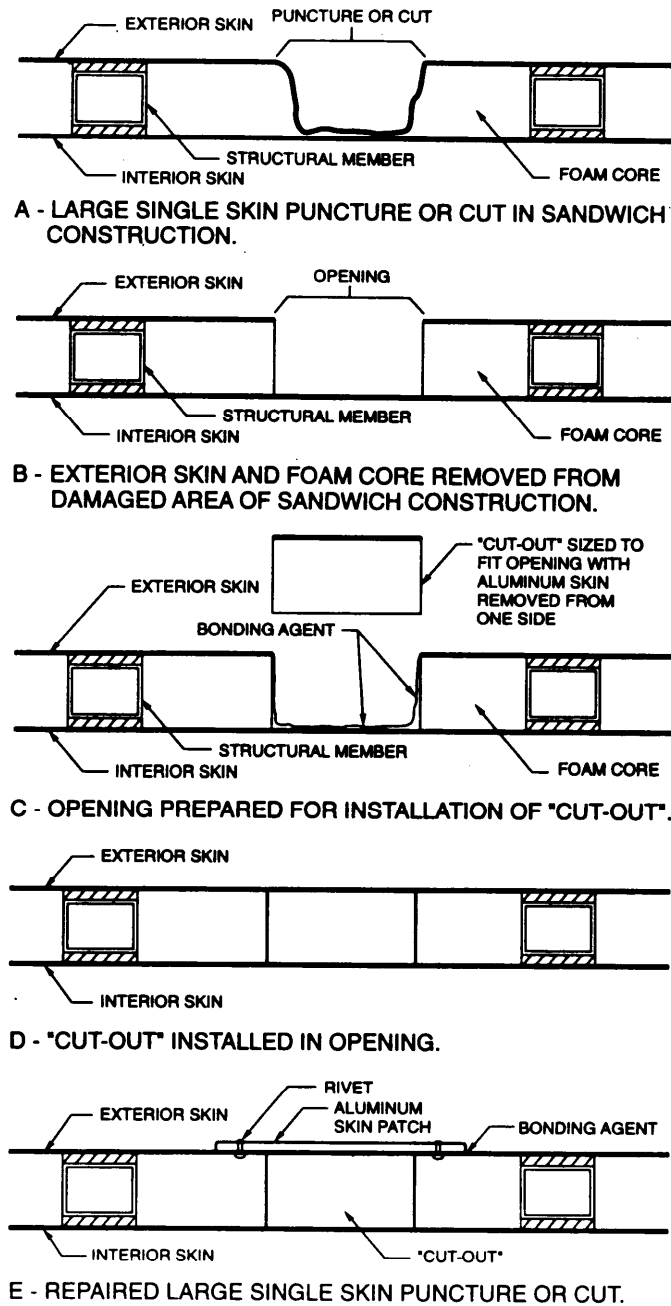

Figure 4-5. Shelter Wall Repair of Large Skin Puncture or Cut.
##### Repair. (Figure 4-5)
- (1) Select an aluminum skin patch that overlaps the puncture or cut by one inch in all directions.
- (2) Use the aluminum skin patch as a template positioned over the puncture or cut, and lightly scribe the area of the aluminum skin patch on the skin of the shelter.
- (3) Use a saw to cut and remove the punctured or cut skin area approximately one inch within the scribed mark (A and B, Figure 4-5). While cutting, take care not to cause additional damage to wall or interior skin.
- (4) Cut the foam core evenly along the edges where the skin is removed and remove the damaged foam core (B, Figure 4-5), maintaining perpendicular and straight edges.
- (5) Select a piece of block insulation or a cutout of the same type sandwich construction (C, Figure 4-5).
- (6) Size the block insulation or cutout to fit the opening where the skin and foam were removed. If a cutout is used, remove the aluminum skin from one side of the cutout.
- (7) Remove all paint or foreign matter from the overlap area on the skin of the shelter and an area approximately one inch around the scribed mark using emery cloth and cleaner. If the cutout is used, remove all paint or foreign matter from the aluminum skin of the cutout.
- (8) Roughen the skin surface with coarse grit emery cloth. If a cutout is used, roughen the surface of the aluminum skin.
- (9) Coat the interior of the opening where the skin and foam core were removed with mixed adhesive (paragraph 4-7.b.(4)).
- (10) Insert the block insulation or cutout into the opening where the skin and foam core were removed (D, Figure 4-5).
- (11) With the aluminum patch over the puncture area, drill #30 holes, around the perimeter of the patch, 1/2 inch from edge of patch and on one inch centers.
- (12) Coat the exposed block insulation or cutout and the overlap area with mixed adhesive.
- (13) Dip the pop rivets in the mixed adhesive and use the riveting tool for pop rivets to install the aluminum skin patch as shown (E, Figure 4-5).
- (14) Smooth and taper mixed adhesive (squeezed out during the riveting process) along the edges of the aluminum skin patch and immediately remove excess mixed adhesive with cloth saturated in toluene solvent.
- (15) Prime and paint the repaired surface. (Refer to paragraph 4-12.)
- (16) Inspect the repaired area to ensure that rivets and paint were applied correctly.